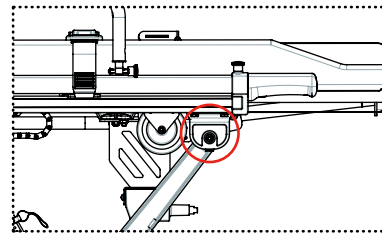

FIGURE 8
- Check the tightening torque of the screws that connect the legs to the upper part of the stretcher (see Fig. 8). The tightening torque must be 19.11 Nm.